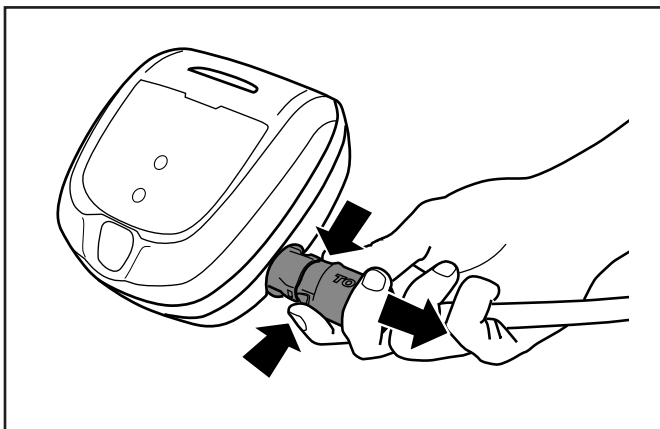

Figure 11. Disconnect the Power Cord
- Grip the power cord firmly on each side and press two tabs to release (see Figure 11.)